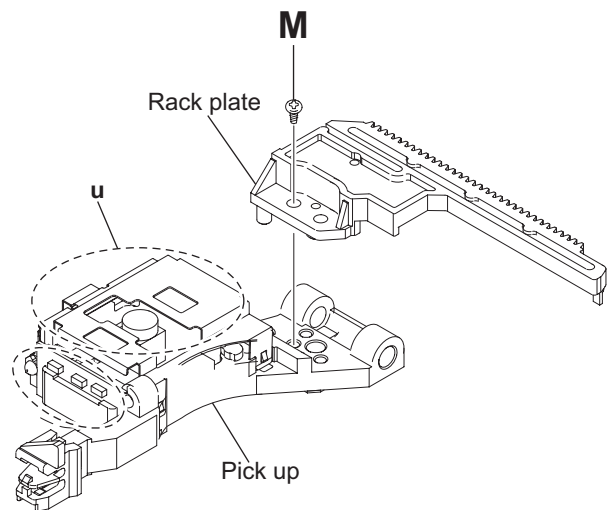

Fig.22
- Remove the screw **M** attaching the pickup to the rack plate. (See Fig.22.)